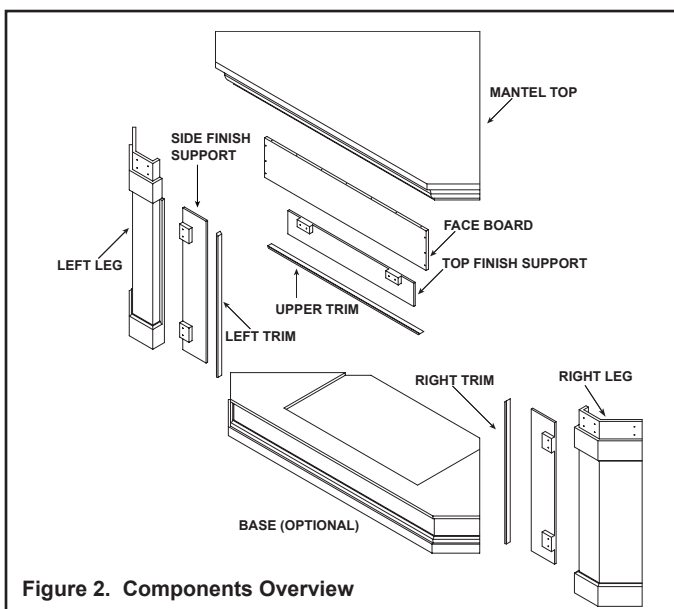

Figure 2. Components Overview
1. Remove all components from packaging. Confirm that all components are included. See Figure 2.